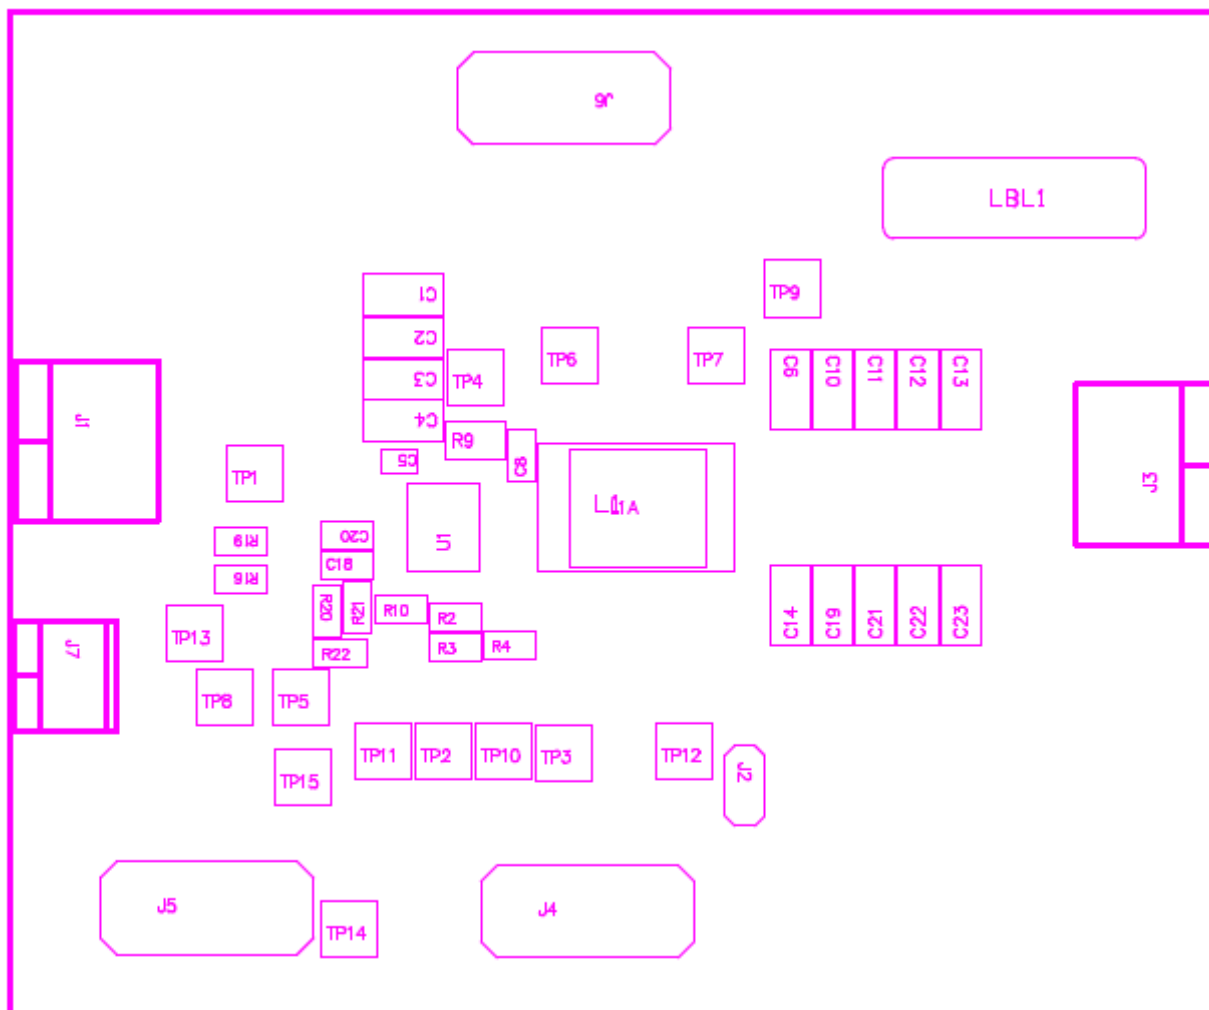

Figure 5-2. TPS53515EVM-587 Top Layer for Test Setup
- Voltage Source** The input voltage source VIN must be a 0 to 14-V variable-DC source capable of supplying 10 ADC. Connect VIN to J1 as shown in Figure 5-2.
1. Prior to connecting the DC input-source, VIN, TI recommends to limit the source current from VIN to 10 A maximum. Ensure that VIN is initially set to 0 V and connected as shown in Figure 5-2.
1. Set up the EVM as described in Section 5 and Figure 5-2.